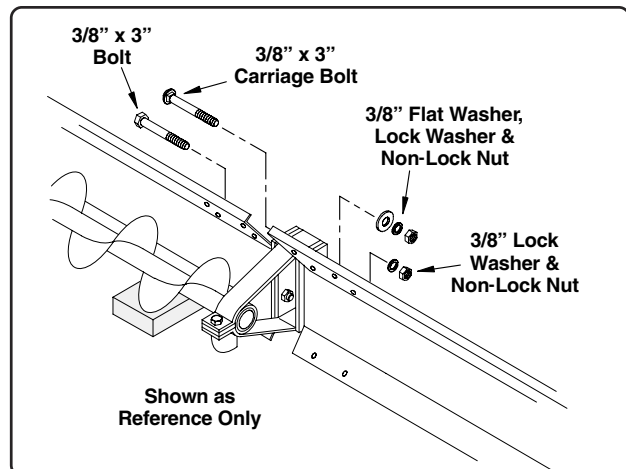

Fig. 8
3. Support the flight and shield with a wood block or similar item. Position a bearing stand assembly at the end of the shield and install the next section of sweep shield (the bearing stand will be sandwiched between the shields, See Fig. 8).